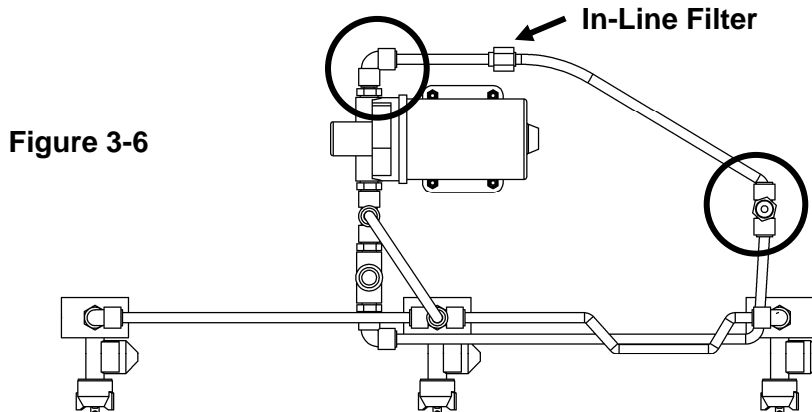

Figure 3-6
2. Locate the in-line filter, shown in Figure 3-6.
3. Disconnect the tubing at the connectors, as shown in Figure 3-6 (circled).